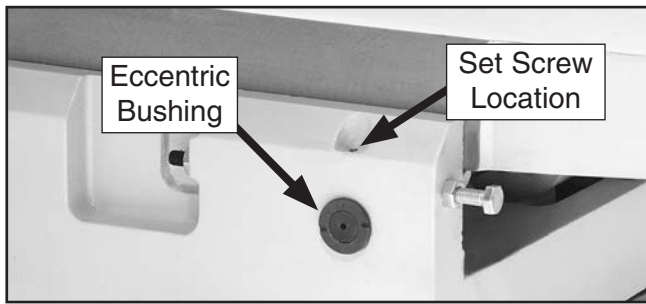

Figure 52. Eccentric bushing and set screw location.
2. Remove the set screw from each of the four eccentric bushings (**Figure 52**) under the outfeed table, and loosen the set screws underneath those removed set screws.